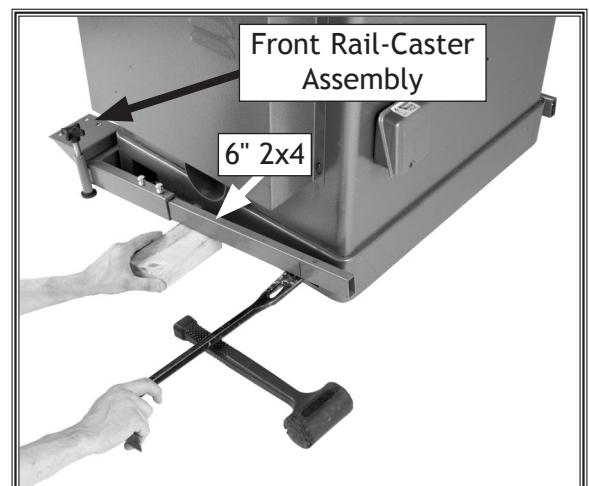

Figure 26. 2x4 placed under rail after using crowbar to raise rail up.
16. Put on safety glasses, then use a crowbar and some type of fulcrum to raise one of the side rails that is attached to the front corner bracket assembly. Place a 6" 2x4 under the rail to support it, as shown in **Figure 26**.